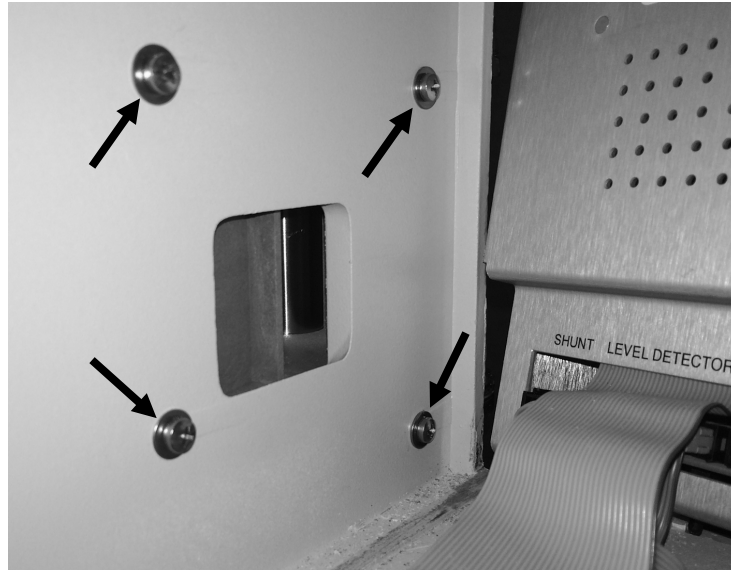

Figure 16
24. Locate and remove the four (4) screws attaching the upper IV pole holder to the cabinet (see Figure 16).